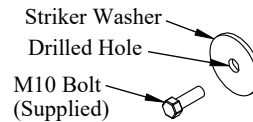

Figure 6: Striker washer.
3. **Drill** out the center hole of the striker's washer with a 0.406" diameter drill bit (Figure 6).